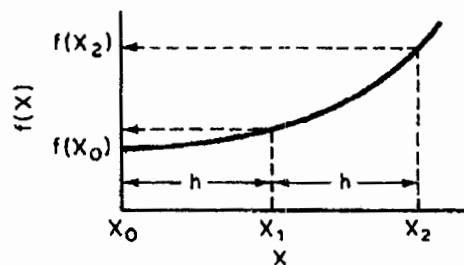

Figure A-3 Simpson's three-point rule illustration.
2. *Simpson's one-third rule* (three-point) (Figure A-3). A more accurate evaluation of the integral can be found with the application of Simpson's rule: